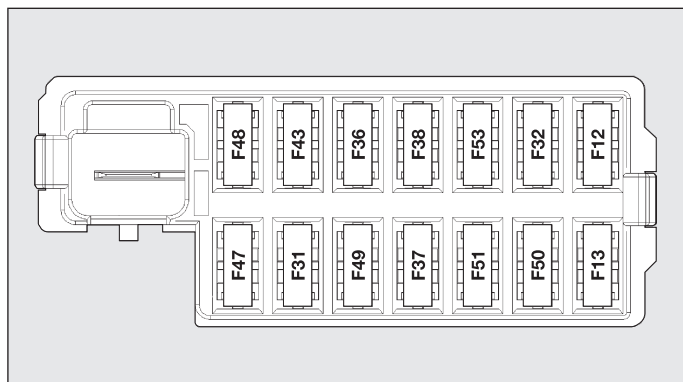
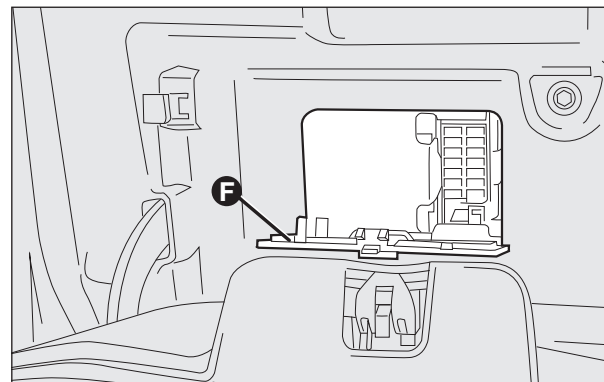

fig. 32
fig. 33
The control unit shown in **fig. 32** is present in the lower area, besides the pedals.
To gain access to the fuse box shown in **fig. 32**, open flap **F** located inside the glove compartment **fig. 33**.
**FUSE SUMMARY TABLE****Dashboard control unit – fig. 32**